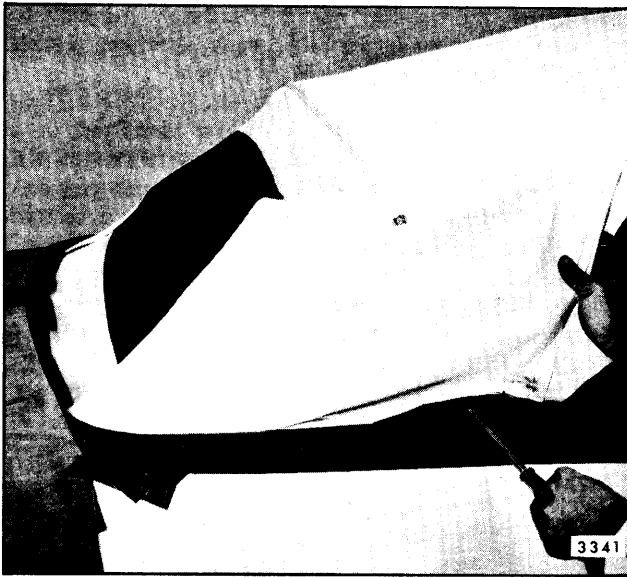
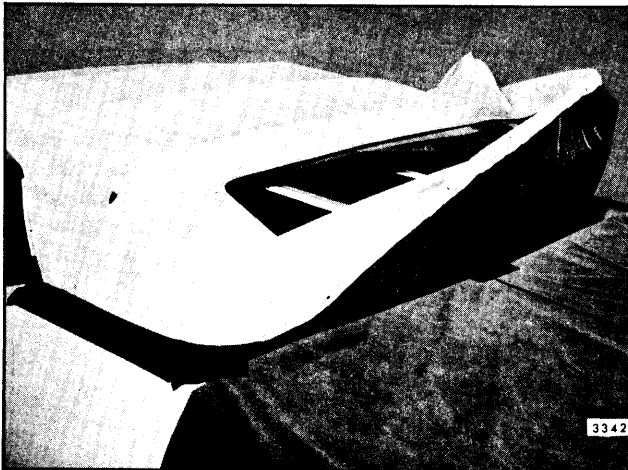

Fig. 13-32—Raising End of Trimstick "A" Styles
Fig. 13-33—Raising Balance of Trimstick "A" Styles
On "A" styles, with top two to four inches off header, move one end of trimstick inward for clearance. Then pry it upward between hinge and body to clear rear roof rail (Fig. 13-32). Raise removed end of trimstick upward and forward. Then continue by removing balance of trimstick above body belt line (Fig. 13-33 and 13-34).
3. Position rear trimstick(s) into body in reverse of removal operation (See Steps 10 & 11 of Removal of Folding Top Cover Less Back Curtain, Fig. 13-33 or 13-35).